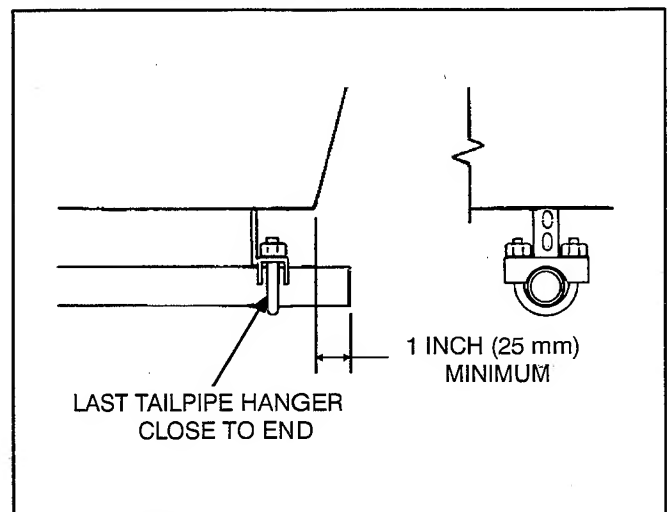

FIGURE 8. TERMINATING THE EXHAUST TAILPIPE
6. Do not terminate the tailpipe underneath the vehicle. Extend it a minimum of 1 inch (25 mm) beyond the perimeter of the vehicle (Figure 8). Support the end of the tailpipe such that it cannot be pushed inward and up under the skirt of the vehicle.
11. In "high-mount" applications (Model HDKAT), the exhaust tailpipe must be routed down and underneath the vehicle and terminate at least 1 inch (25.4 mm) beyond the perimeter of the vehicle (Figure 8). The tail pipe may be routed inside the hot exhaust duct (Page 10), but not through the interior of the vehicle. The tail pipe must be visible and accessible along its entire length for inspection and replacement.